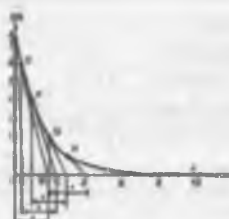

Figure 18.13
- With reference to Fig. 18.13, the initial slope is obtained by making (ΔB) equal to 1 time constant, (i.e. 2 s), and joining AB